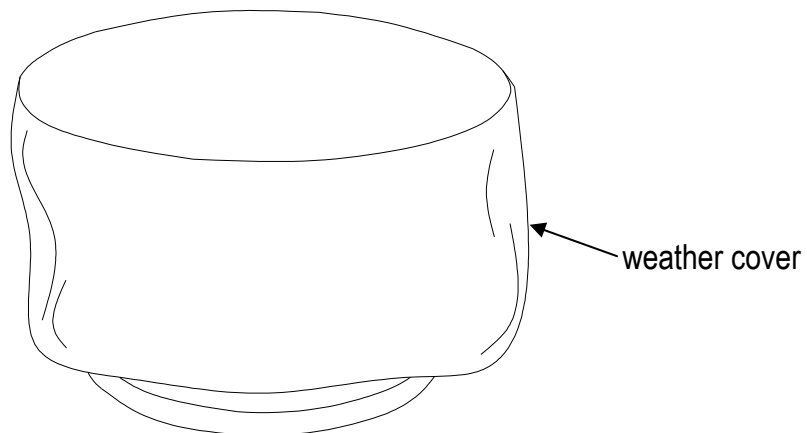

Figure 3
- Cover the fire pit with the outdoor weather cover when not in use to protect it from the elements or when fire pit is cool COMPLETELY after the use, see Figure 3.